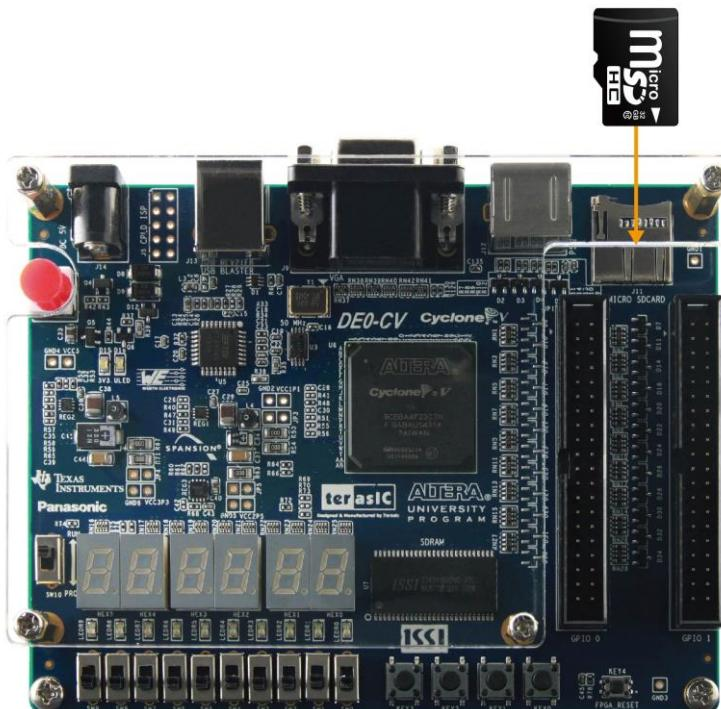

Figure 5-8 Insert the Micro SD card into DE0-CV
- Insert the Micro SD Card into the SD Card socket of DE0-CV, as shown in **Figure 5-8**.